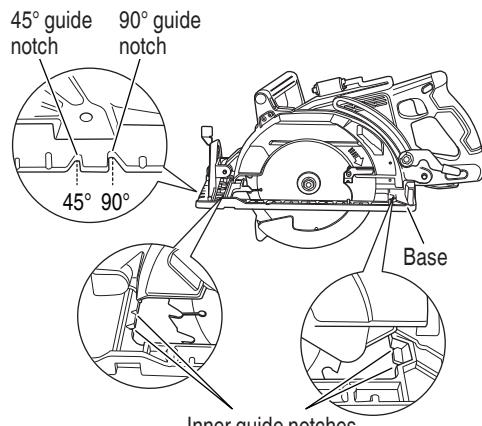

Fig. 27
Also, the saw has the inner guide notches located on the insides of the base as shown in Fig. 27 to keep the straight cutting.
If the base is inclined (45 degrees), use the left side of the notch (Fig. 27).
- (4) Tilt the saw forward and align the notch (Fig. 27) with the pre-marked guide line.
- (5) Release the lower guard lever. When the lower guard contacts the work piece surface, it will be in the proper position to open freely when cutting is commenced.
- (6) Holding the saw in position, with the blade not contacting the work piece surface, pull the trigger switch.
- (7) After the saw has reached full speed, gradually lower rear end of the saw until its base rests on the work surface.
- (8) Advance saw along the cutting line up to the corner.
- (9) Release the trigger switch and allow the blade to stop completely before withdrawing the blade from the work piece.
- (10) Use a jig saw or hand saw to cut the corners out clean.
- (11) When starting each new cut, repeat as above.